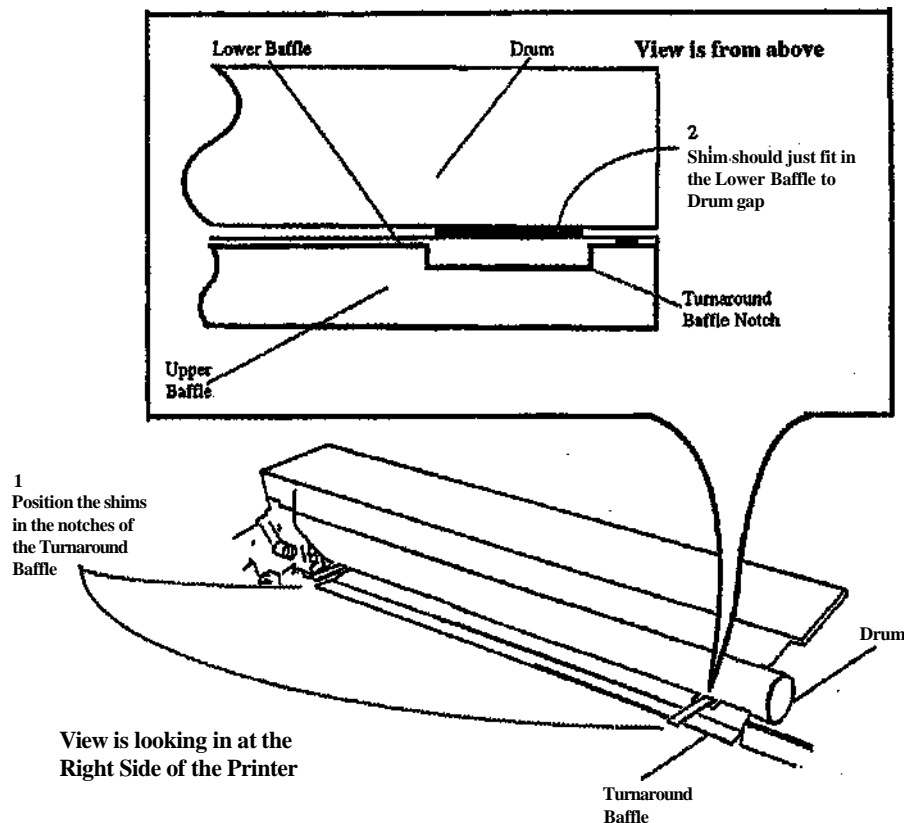

Figure 1. Checking the Media Transport to Drum Spacing
5. (Figure 1): Check that the Media Transport to Drum spacing is 0.030 ± 0.005 inches (0.76 ± 0.1 mm).